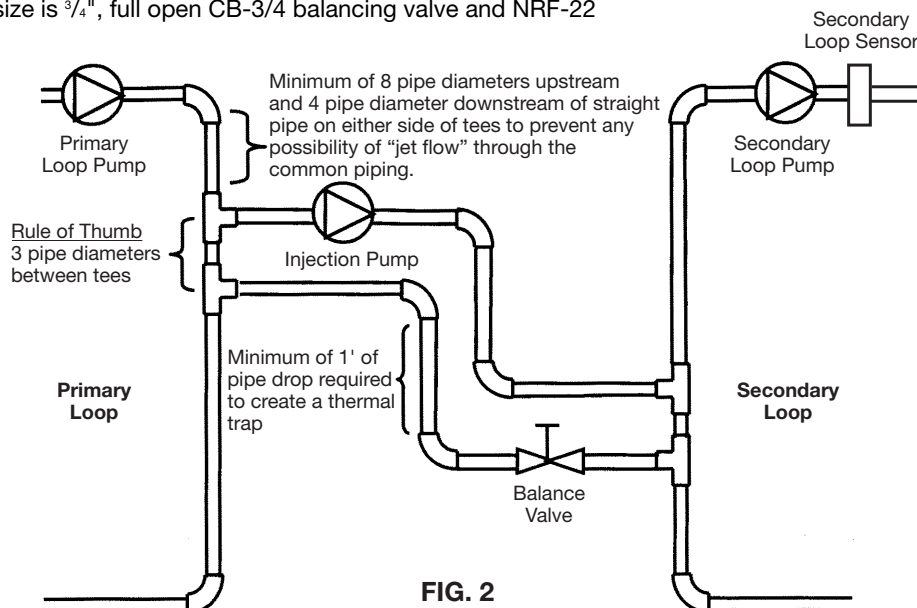

FIG. 2
- The Injection piping can be installed horizontally as shown in Fig. 2.
- In a primary/secondary application, the secondary loop sensor should be mounted downstream of the inlet loop and before any major heating units. That will provide the control a more accurate temperature reading (Refer to Fig. 2.)
- Sensors are typically installed on the secondary loop. (See Fig. 2)